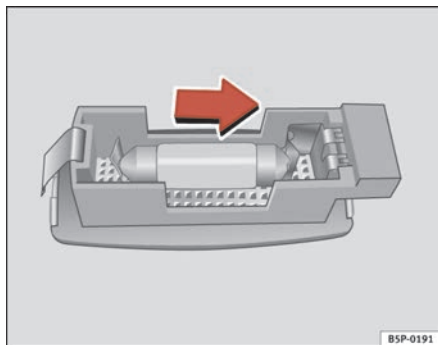

Fig. 175 Removing sunroof light
- Carefully remove the lamp, using the flat side of the screwdriver, as shown in the figure ⇒ fig. 175.
- Remove the bulb, moving it in the direction of the arrow and outwards ⇒ fig. 175.